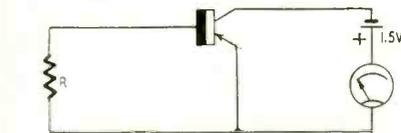

Fig. 1—Experimental transistor circuit.
2. While frequent zero resetting due to temperature change may be annoying, there is one problem even worse. Note the following measurements made on different transistors used in a circuit like Fig. 1. Resistor R represents resistance of the signal source and was varied as shown. Readings are in  $\mu$ a.